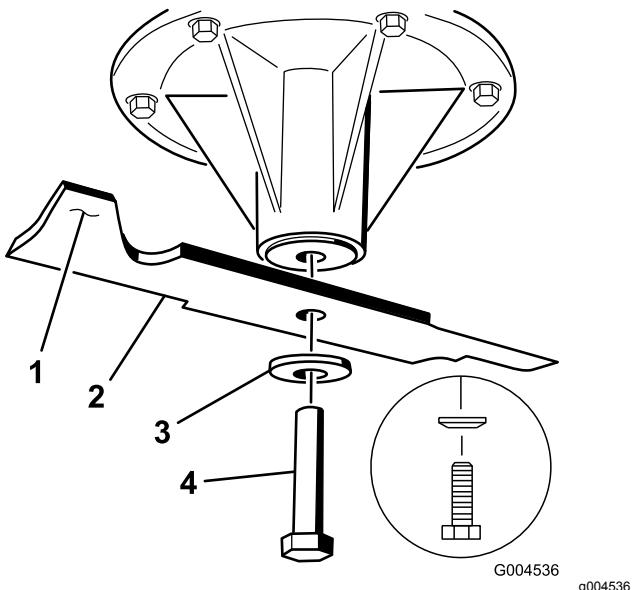

Figure 105
2. Remove the blade bolt, curved washer, and blade from the spindle shaft (Figure 105).
- If the blade is not balanced, file some metal off the end of the sail area only (Figure 105).